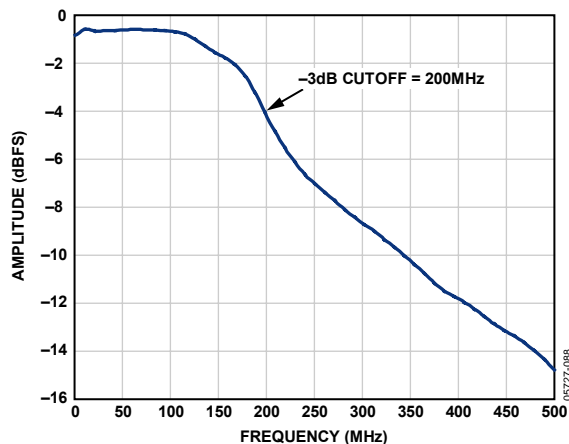

Figure 71. Evaluation Board Full Power Bandwidth
- **AIN:** The evaluation board is set up for a transformer-coupled analog input with optimum 50 Ω impedance matching out to 200 MHz (see Figure 71). For more bandwidth response, the differential capacitor across the analog inputs can be changed or removed. The common mode of the analog inputs is developed from the center tap of the transformer or AVDD_DUT/2.